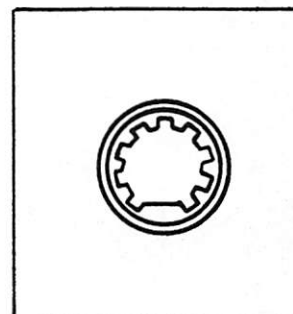

Figure 3. Space Facing Forward
1. When reinstalling distributor assembly, align timing marks as described in the preceding. The distributor drive has one tooth omitted (or space) on each shaft for easy installation. The space should face forward. (Figure 3)